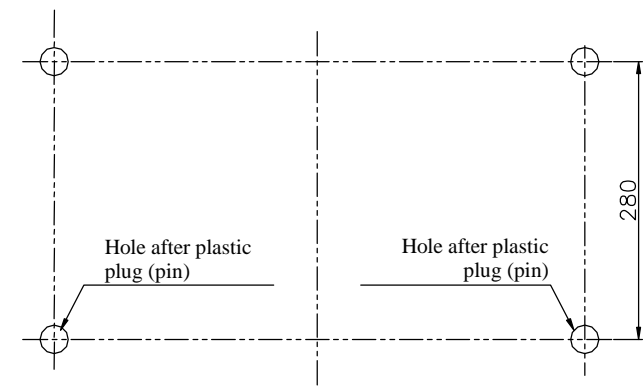

Fig. 2
3. Find plastic protruding plugs (pins) on the left and right side in the trunk. Take them out. Raised holes are base holes. Mark second holes as shown on the figure 2. Next drill marked holes straight through using bit  $\phi 11$ mm, then enlarge it only from luggage part by bit  $\phi 17$ mm.